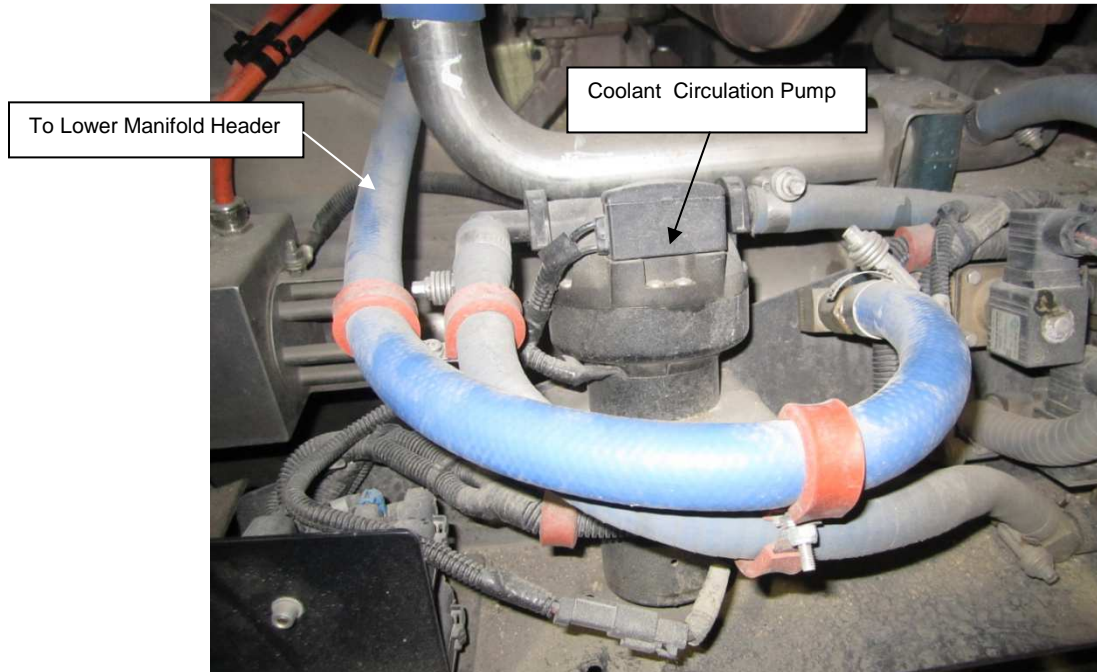

Figure 3: Hose Layout at Coolant Circulation Pump.
8. Check to make sure that the hoses are connected according to Figure 3.